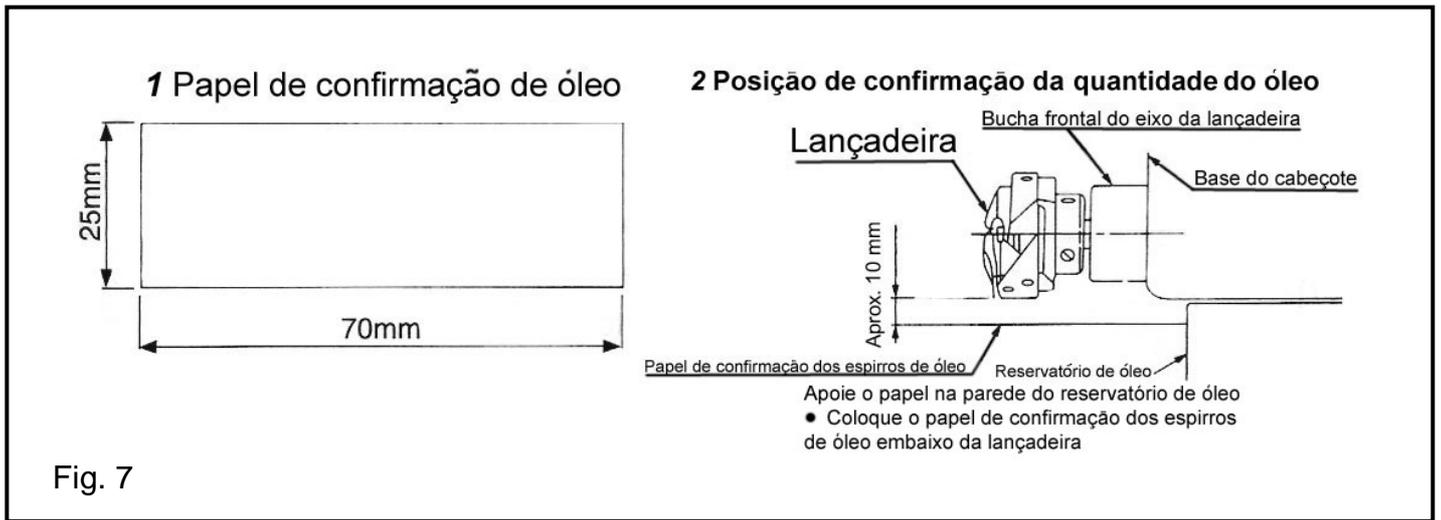

Fig. 7
3. AJUSTE DA QUANTIDADE DE ÓLEO NA LANÇADEIRA (FIG. 7, 8 E 9)